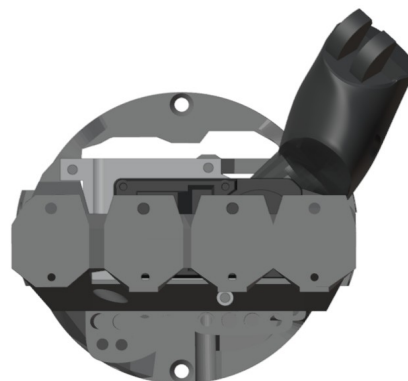

Figure 5.8: Thumb rotation servo motor registration
1. Position the thumb at approximately the middle of the range (figure 5.8).